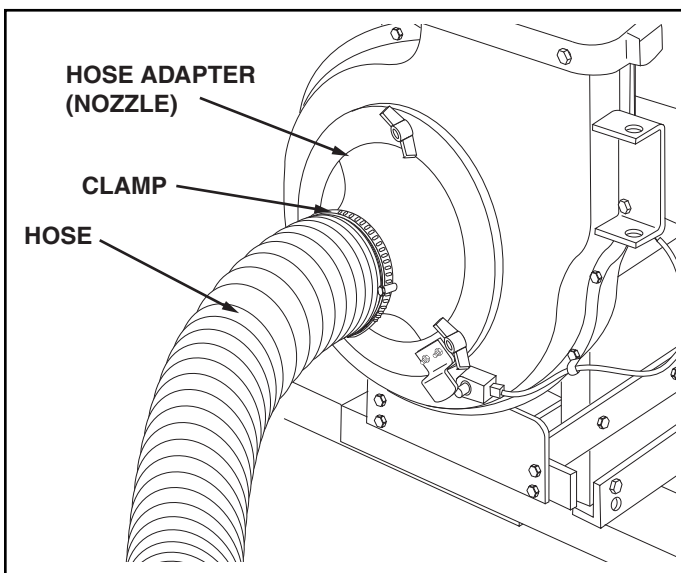

FIGURE 19
33. Place a hose clamp onto end of hose. Push hose onto hose adapter (nozzle). Tighten hose clamp onto hose and hose adapter. **Do not collapse hose adapter when tightening clamp.** See figure 19.